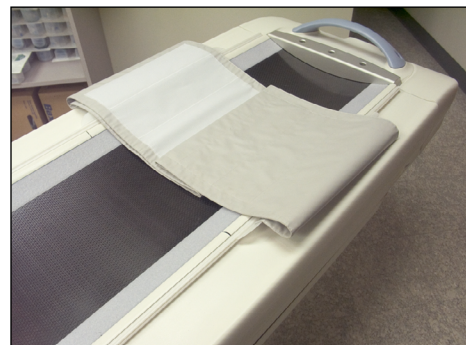

Fig. 46
1. Remove the GE CT Cradle Restrain Cloths (Fig. 46).